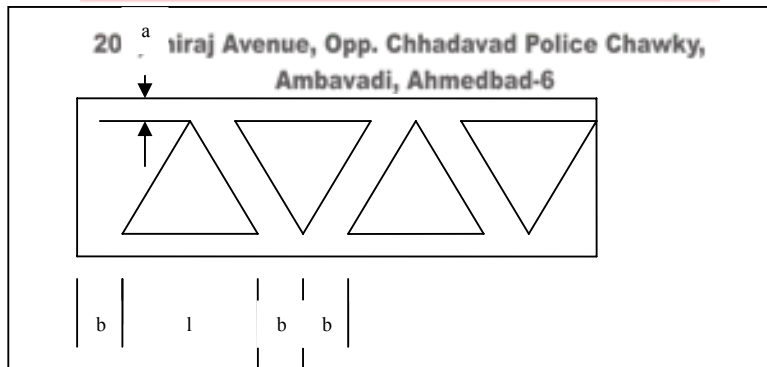

Figure 1.
- (b)** Determine the material utilization factor for producing 60 mm equilateral triangle blank from a 4 mm thick. Assume bridge allowance is 1.5T and the blanks are arranged in straight line as showing in figure 1. $a = b$ **07**